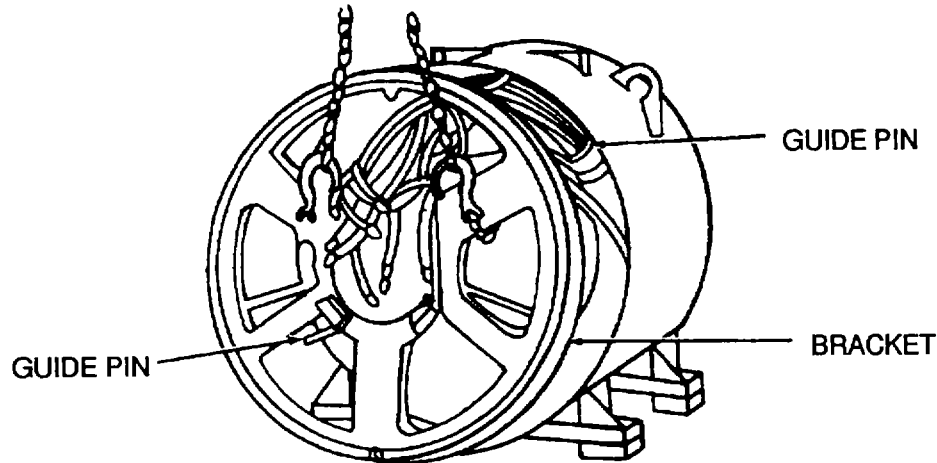

Figure 5-6. Bracket Installation
- (3) See Figure 5-6 and attach a hoist with a minimum capacity of 2,000 pounds (907 kg) to the bracket (19, Figure 5-1).
- (4) Align the bracket mounting holes to the guide pins on the main stator coil assembly (33) and slide the bracket over the pins.
- (5) Install the hexagon head screw (34) and mounting washer (29). Remove the lifting gear from the bracket (19).